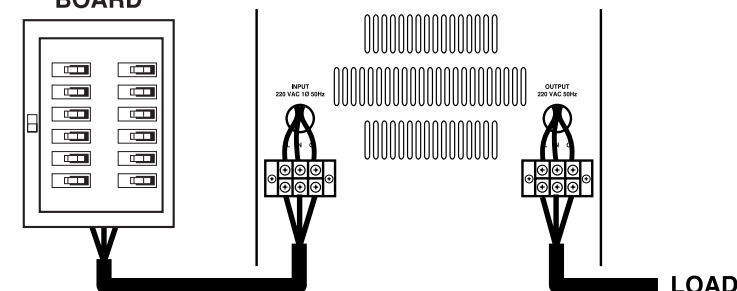

Figure 1
- 4.5 For NB 2K25; connect the cable from INPUT TERMINAL to utility power source. Then, connect the cable from OUTPUT TERMINAL to loads as shown in Figure 1. Please refer to the cable sizing in 4.4.